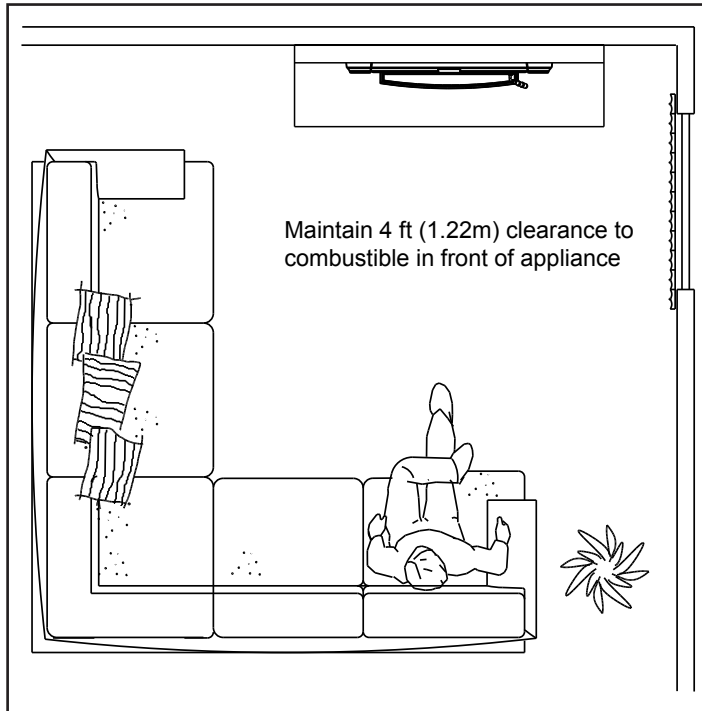

Figure 14.1
- Do NOT place combustible objects within 4 ft (1.2 m) of the front of appliance. See **Figure 14.1**.